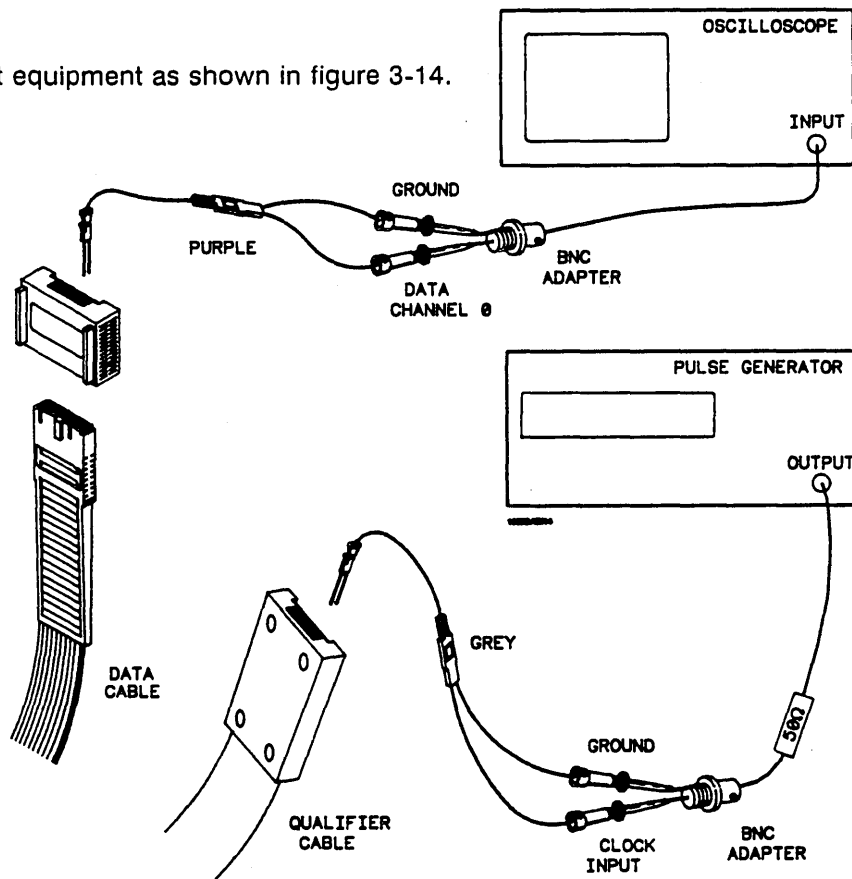

Figure 3-14. Duty Cycle Test Equipment Hookup
- a. Connect test equipment as shown in figure 3-14.